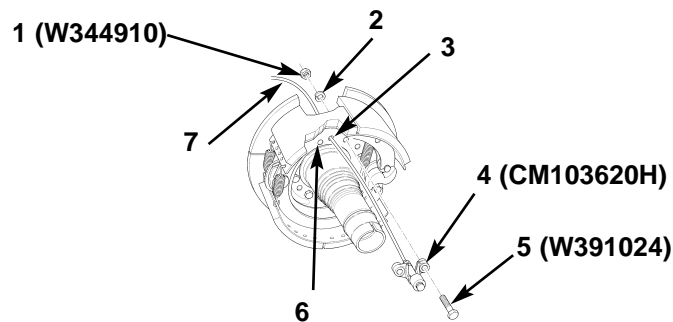

Figure 12. Installing Wheel Sensor on Brake Spider.
12. Route wheel sensor power cable (figure 12, item 7) through enlarged hole (figure 12, item 3), and install sensor mounting bracket (figure 12, item 4) on axle housing and brake spider (figure 12, item 6) with two new bolts (figure 12, item 5), washers (figure 12, item 2) retained in step 9, and new locknuts (figure 12, item 1).